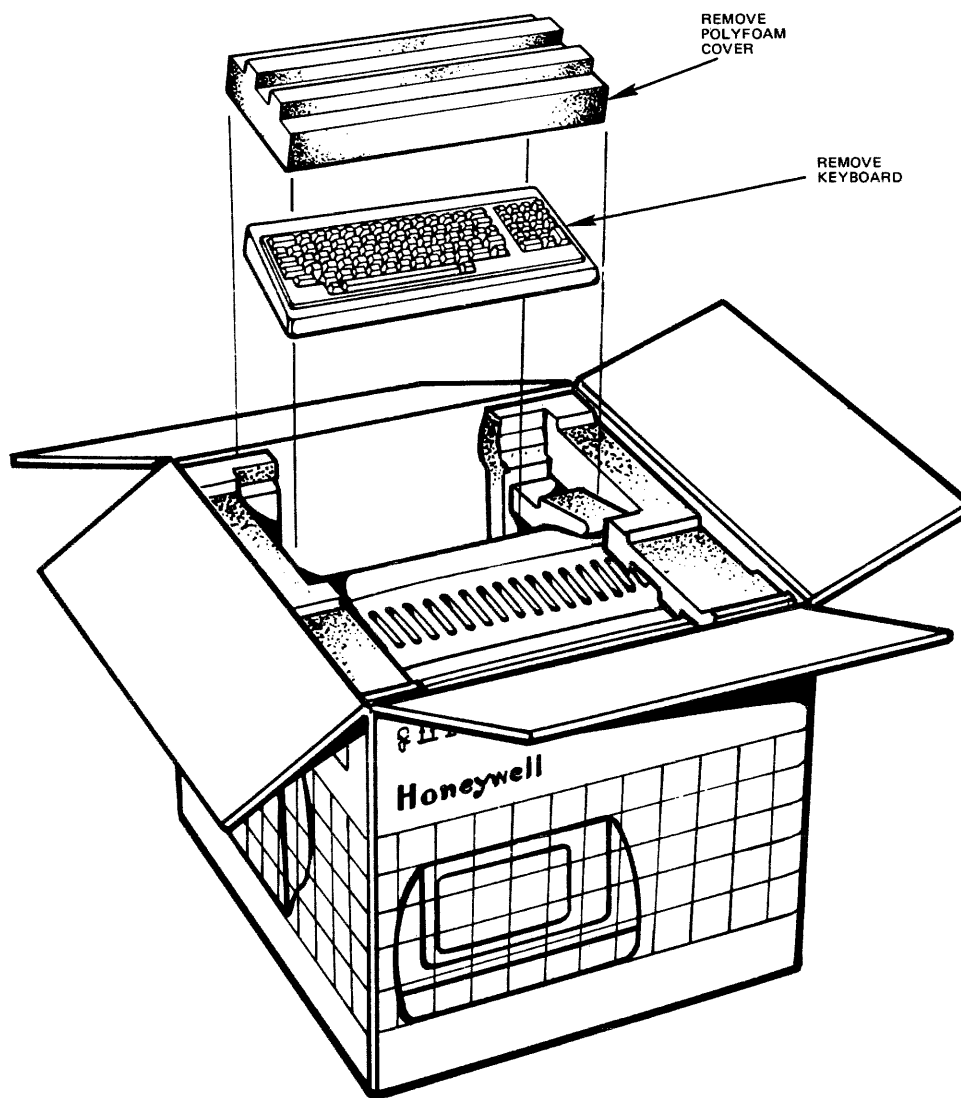

Figure 2-1. Unpacking the Terminal
Referring to Figures 2-1 through 2-4, carefully remove the VIP7201 keyboard and display unit from the shipping carton as follows:
2. Open the carton and remove the polyfoam cover (see Figure 2-1).
3. Lift the keyboard with its attached cord (enclosed in a poly bag) from the carton (see Figure 2-1).